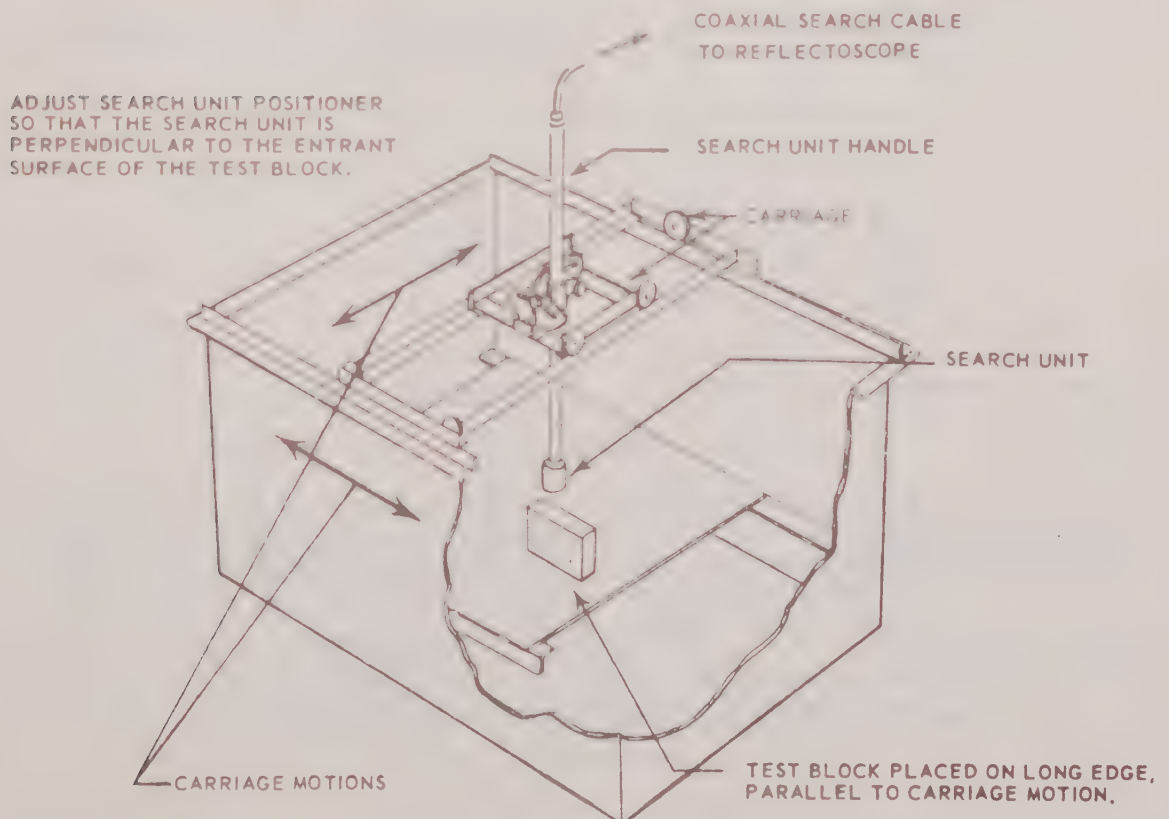
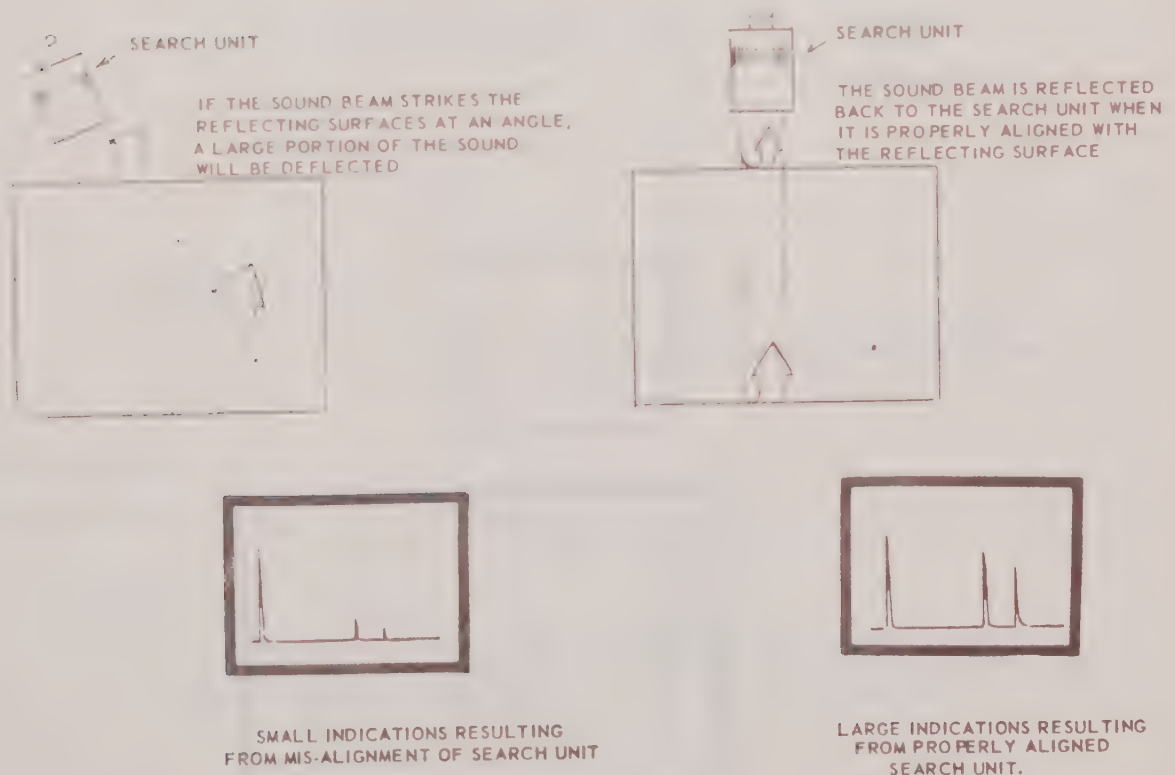

Figure 3-24 Arrangement of Accessory Equipment for Single Search Unit Operation
Figure 3-25 Positioning Search Unit for Maximum Penetration
- b. Mount search unit positioner carriage on tank. (Figure 3-24).
- g. Place test block in tank so that it is parallel to one of the carriage motions. (Figure 3-24).
- n. Adjust positioner so that search unit is approximately 1 3/4" above surface of test block. (Figure 3-24).
(1) Frequency*	- 5.0 MHz
(2) Sensitivity	- (as required 2" signals)
(3) Pulse Length	- minimum
(4) Pulse Tuning*	- tune for maximum signal amplitude
(5) Sweep Control	- 2
(6) Reject	- OFF
(7) Sweep Delay	- Initial pulse at first index mark.
(8) Test Mode	- Normal or Echo
- j. Position search unit by moving it over a section of the test block so that the sound beam will encounter no hole. Adjust the angular position of the search unit to obtain a signal of maximum amplitude from the bottom and top surface of the test block. (Figure 3-25).